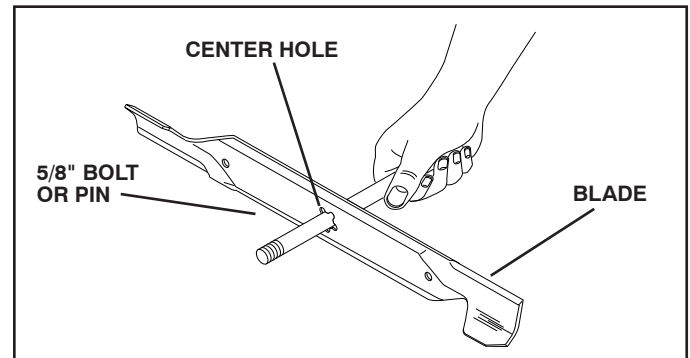

FIG. 12
- When mowing large areas, start by turning to the right so that clippings will discharge away from shrubs, fences, driveways, etc. After one or two rounds, mow in the opposite direction making left hand turns until finished (See Fig. 12).
BLADE REMOVAL (See Fig. 12)